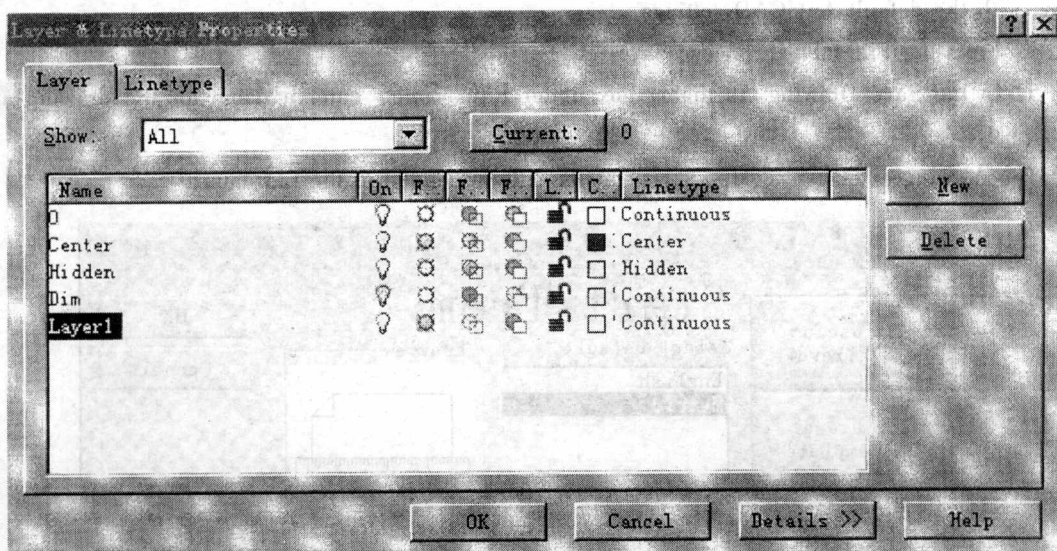

Fig. 2.2 Layer and Linetype Properties dialog box
2. In the Layer and Linetype Properties dialog box, choose New (Fig. 2.2). A layer called Layer1 is displayed.